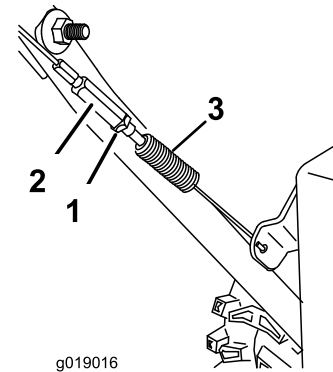

Figure 30
1. Loosen the jam nut (Figure 30).
2. Loosen or tighten the turnbuckle to adjust the pin until it is the proper gap from the front edge of the slot (Figure 30).
3. Tighten the jam nut (Figure 30).